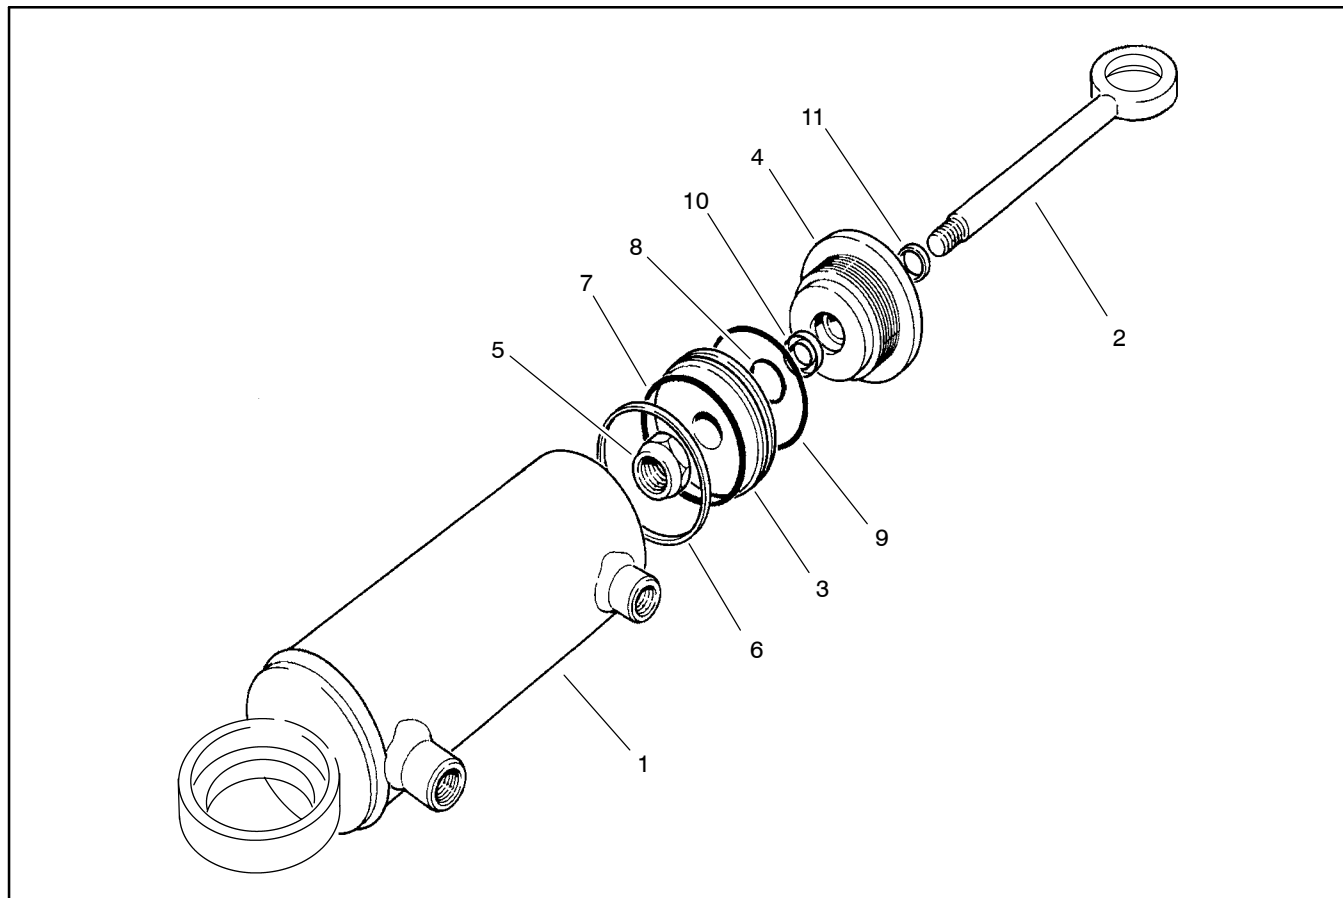

Figure 84
**Disassembly (Fig. 84)**
A. On cylinders without a retaining ring slot in the barrel (Fig. 84), use a spanner wrench to loosen and remove gland from barrel.
**Assembly (Fig. 84)**
A. On cylinders without a retaining ring slot in the barrel (Fig. 84), use a spanner wrench to tighten gland into barrel.